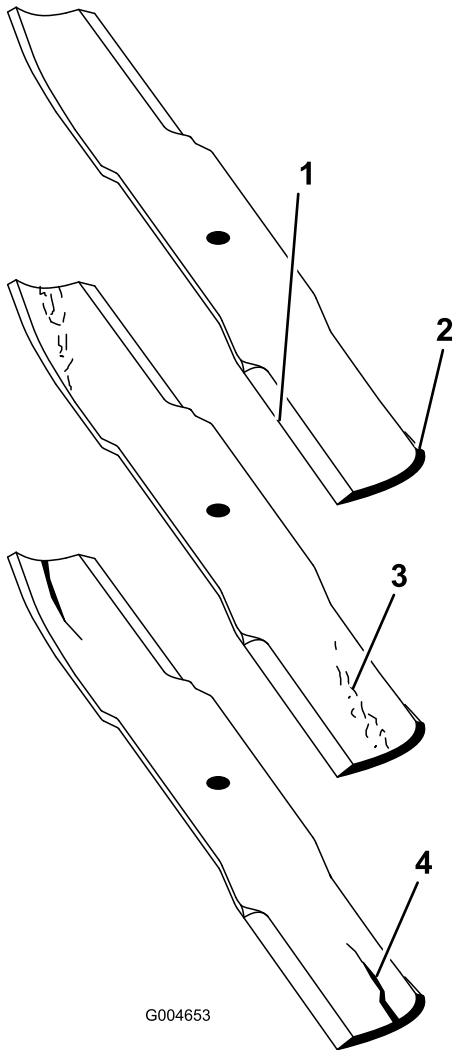

Figure 85
2. Examine the cutting ends of the blade carefully, especially where the flat and curved parts of the blade meet (Figure 85). Since sand and abrasive material can wear away the metal that connects the flat and curved parts of the blade, check the blade before using the mower. If wear is noticed (Figure 85), replace the blade.
If the blade is allowed to wear, a slot will form between the sail and flat part of the blade (Figure 85). Eventually a piece of the blade may break off and be thrown from under the housing, possibly resulting in serious injury to you or bystanders.